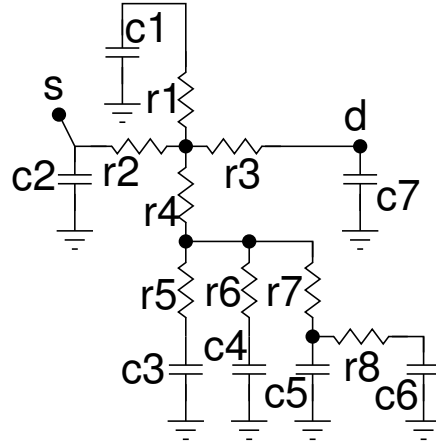

Figure 3: RC network.
3. **(10 pts.)** Consider the circuit in Figure 3. V_s changes from 0 V to 2.5 V at time zero.